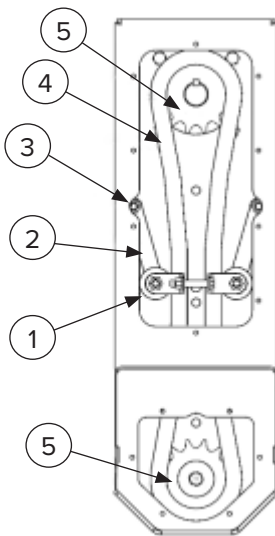

Figure 11
2. Remove the upper access cover (Item 1) [Figure 11] to perform inspection. Use inspection chart below.
3. Tighten nut (Item 3) [Figure 11] until snug, back off 1/2 - 3/4 of a turn. The tensioner arms (Item 2) [Figure 11] should swing freely.